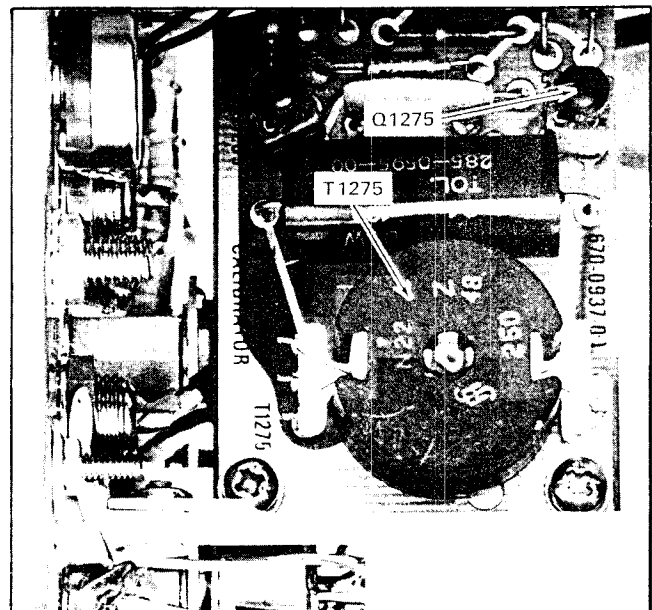

Fig. 5-4. Location of Q1275 and Calibrator frequency adjustment T1275 (Calibrator circuit board).
a. Remove Q1275 (located behind swing-out side panel; see Fig. 5-4) from its socket on the Calibrator circuit board.
- f. ADJUST—Calibrator Frequency adjustment T1275 (see Fig. 5-4) for one cycle of calibrator waveform for each time mark.
- i. ADJUST—Calibrator Frequency adjustment T1275 (see Fig. 5-4) for minimum drift of time markers.